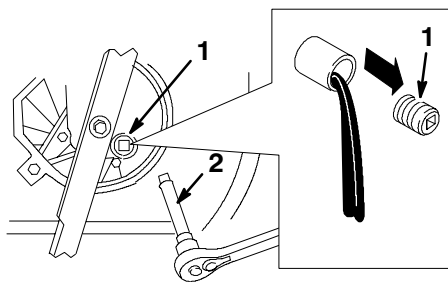

Figure 25
5. Remove the oil drain plug, return the lawn mower to its operating position, and allow the oil to drain into the drain pan (Fig 25).